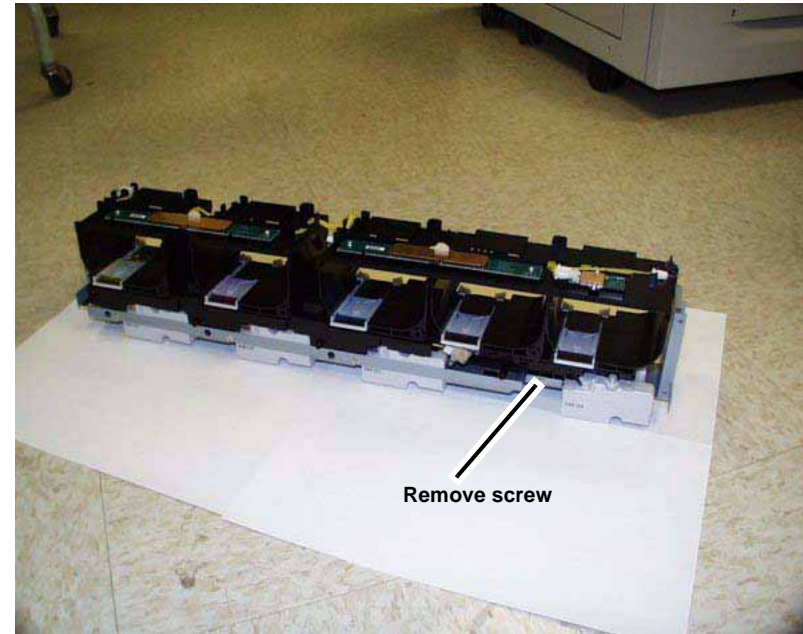

Figure 2 Removing screw
3. Remove screw on the back of the Dispenser Assembly (Figure 2).